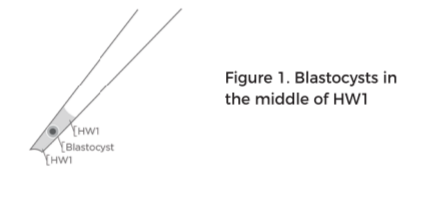
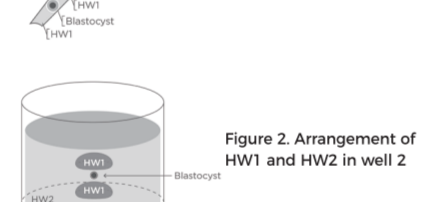

Figure 1. Blastocysts in the middle of HW1
Figure 2. Arrangement of HW1 and HW2 in well 2
- Pipette 20 µL of the HW1 media containing the warmed blastocysts. The blastocysts shall be in the middle of the HW1 (see Figure1). Expel the blastocysts to Well 2 containing HW2. The blastocysts and HW1 should be formed into a sandwich pattern (see Figure 2).